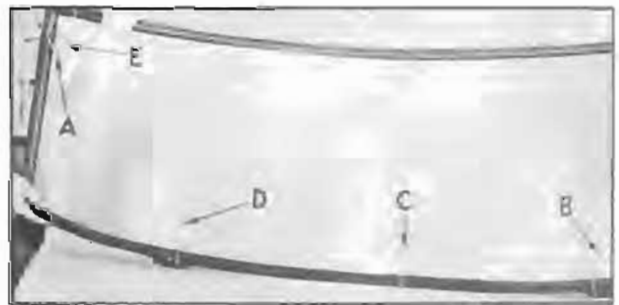

Figure 13-27—Assembly of Glass and Rubber Channel
3. With new glass on a bench, install the rubber channel around edges of glass. Do not pry edge of glass with a metal tool. Insert a strong cord into the pinchweld groove of rubber channel. Referring to figure 13-27, start at upper corner indicated at "A," then follow across the top, down the side, and along the bottom to the wiper shaft location. At this point, make a loop in the cord and into this loop insert a short section of cord indicated at "B." At bottom center of long cord make another loop indicated at "C." At opposite wiper section of channel indicated at "D" loop the cord and insert another short section. Follow up the remaining side and cross both ends of the cord at the upper corner indicated at "E."